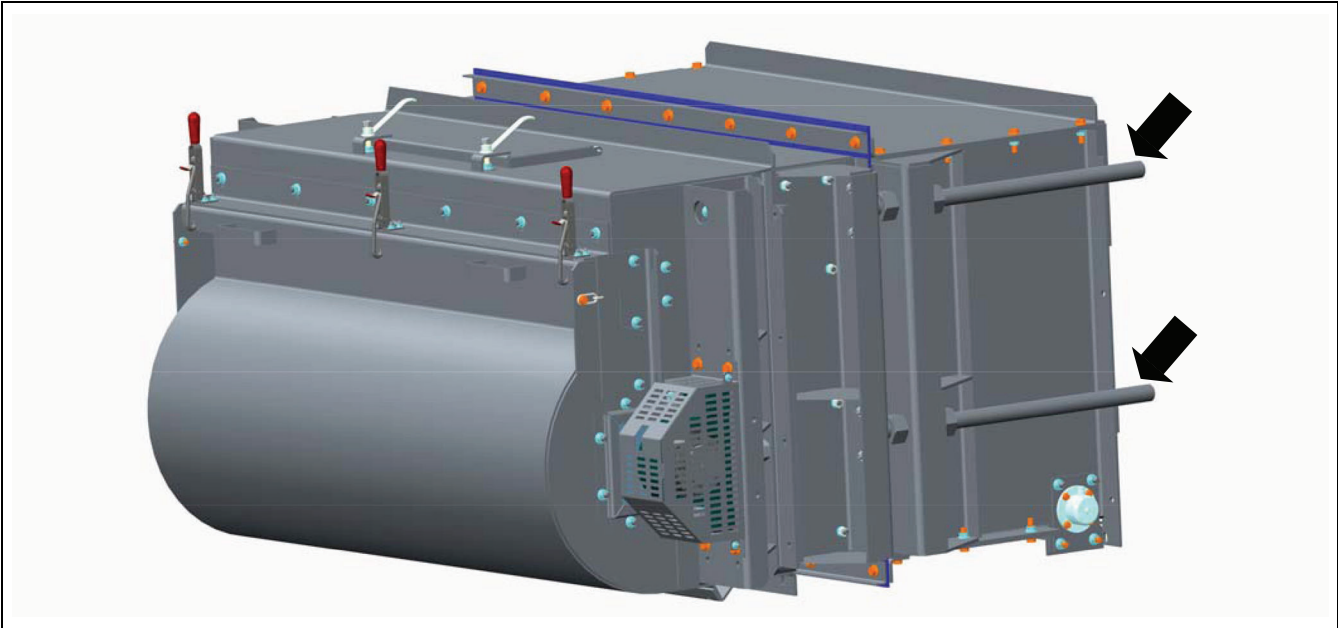

Figure 4R Belt Take-Up Mechanism
- 3. Each conveyor is provided with a screw type take-up mechanism. (See Figure 4R.)
12. Adjust the belt take-up mechanism using the same number of turns both side of the conveyor and on each take-up screw. (See Figure 4R on Page 32.)